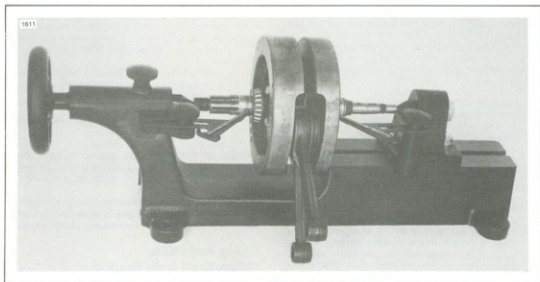

Figure 3-49. Truing Flywheels on Truing Stand
- See Figure 3-49. When nut is fairly tight, install flywheel assembly in FLYWHEEL TRUING STAND, Part No. HD-96650-80. Adjust so centers are snug. Wheels must turn freely but shafts may not be loose in centers. If flywheel assembly is either loose or squeezed, indicators will not read accurately. Adjust indicators to take reading as near to flywheels as possible, so pointers read at about the middle of the scales.